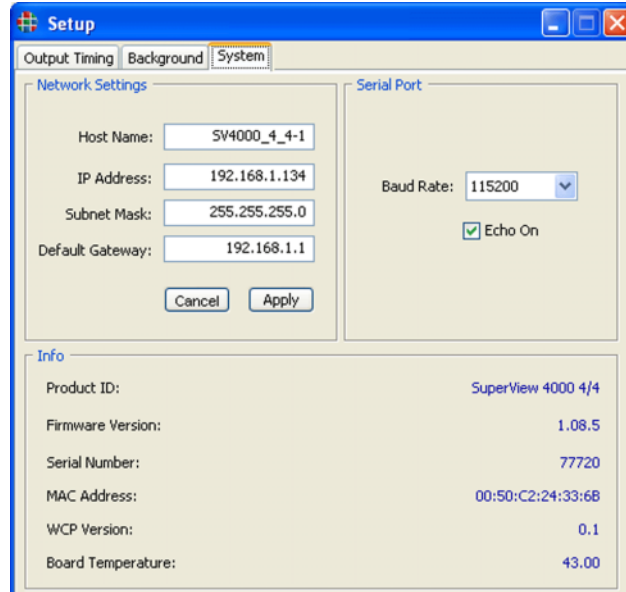

Figure 5-2. WCP Set Up System Page
- Select the **System** page (Figure 5-2).